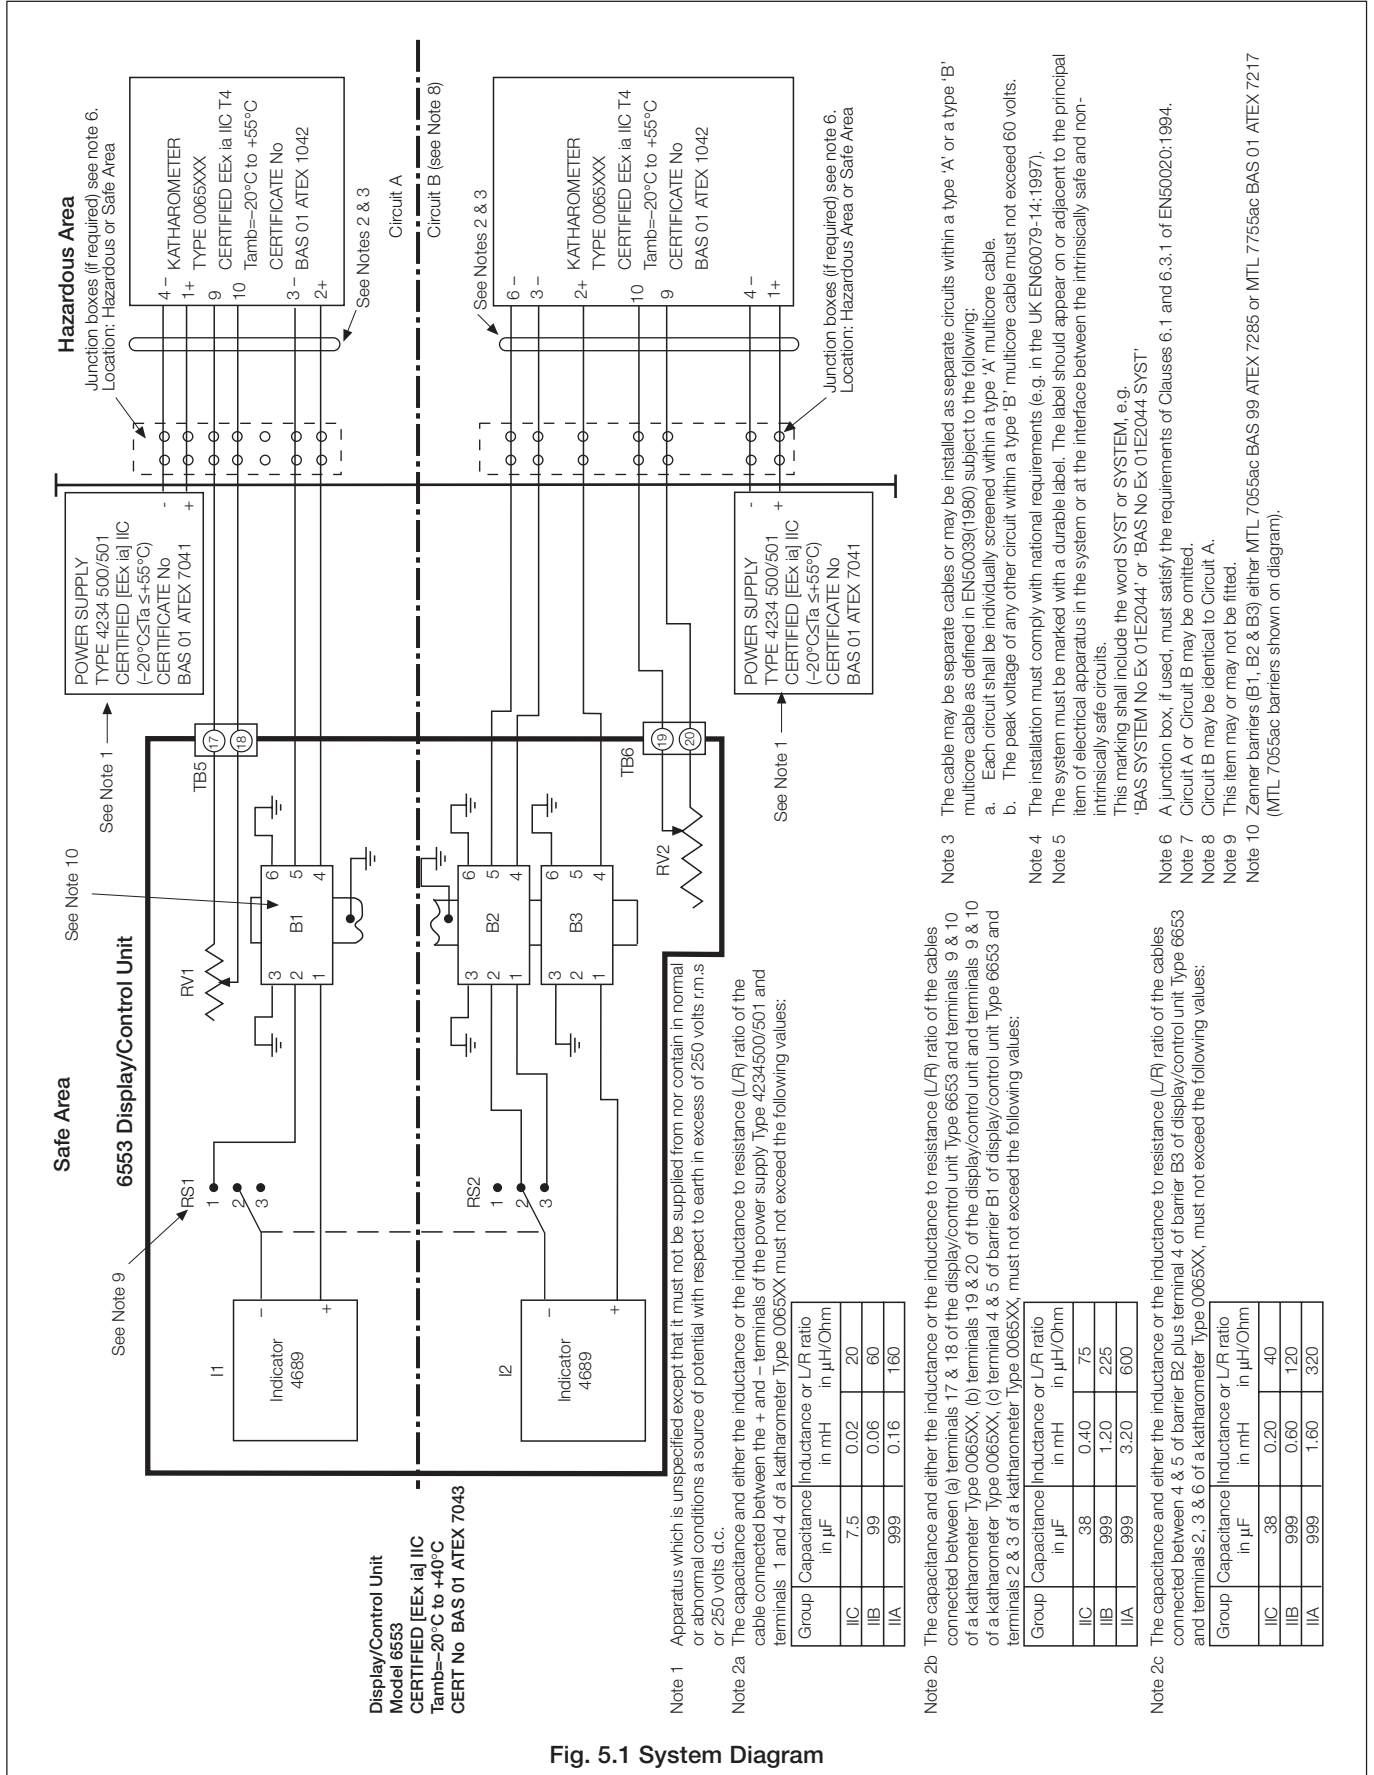

Fig. 5.1 System Diagram
## 5.1 Electrical Interconnections – Fig. 5.1
Fig. 5.1 shows the interconnecting wiring requirements for the AK100 Gas Analyzer system, that must be strictly observed. Details of cable requirements, that must be strictly adhered to, are also given – see Section 5.2.1.
Make electrical connections in accordance with the information given in the wiring diagrams Figs 5.1 and 5.3 and the cable details in Section 5.2.1.
The interconnecting cables between the various units of the gas analysis system are subject to stringent limitations because of the requirements of the intrinsic safety certification. These are listed below and detailed in Fig. 5.1.
The choice of wiring cable is restricted by the limitations imposed by the certification parameters. Care must be taken to ensure that the specification of the cable required for interconnection lengths is such that the certification parameter limits are not exceeded – see Notes 2a, b and c in Fig. 5.1.
- 1) The total Capacitance and Inductance or Inductance to Resistance ratio (L/R) of the cables connecting the katharometer unit to the hazardous area terminals of the display unit (TB2) and power supply unit terminals (TB1) must not exceed the values in Fig. 5.1.